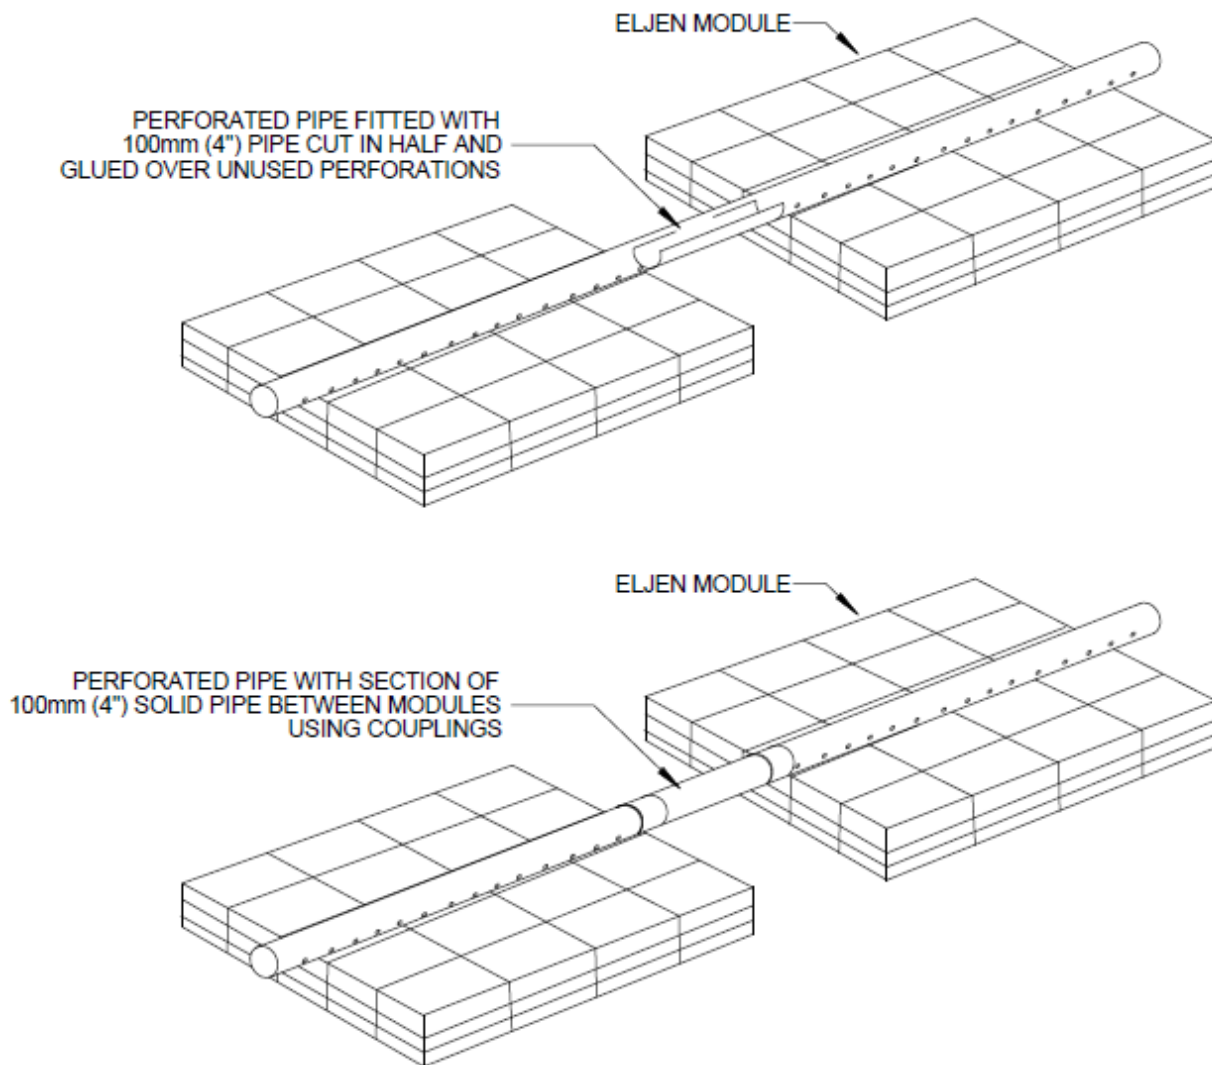

Figure 7: A42 Module End-to-End Separation for All Applications
7. In applications where modules are spaced out end-to-end to increase the effective basal area, all perforated holes not discharging at least 150 mm (6 in.) onto a GSF module must be sealed. See Figure 7 for details.
10. In applications where modules are spaced end-to-end to increase the effective basal area, all perforated holes not discharging at least 150 mm (6 in.) onto a GSF module, must be sealed. See Figure 7 for details on page 20.